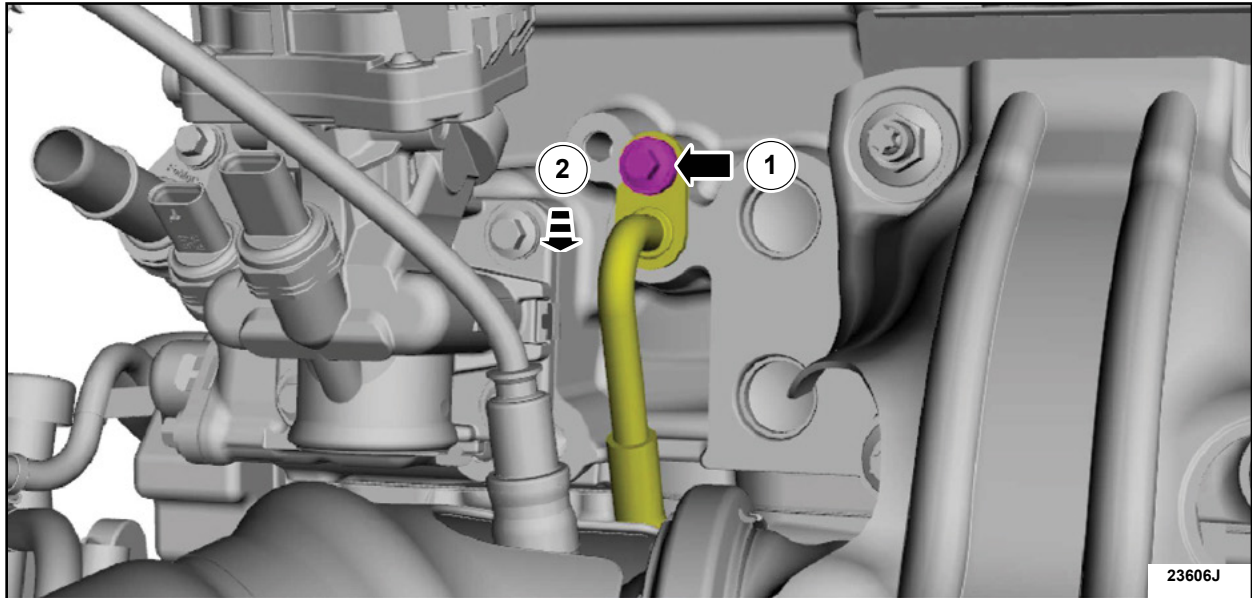

FIGURE 5
9. Remove the bolt, then position turbocharger coolant return tube out of the cylinder head. See Figure 5.